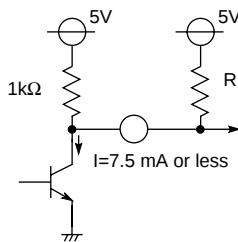

Fig. 1
4. The H and V output pins (pins ⑳ and ㉑) are as shown in Figure 1.
1. Resistance can be inserted into a portion between power supplies to improve the rising speed. However, set the R value to limit the current to 7.5 mA or less. In Figure 1, R is 2 kΩ or more.